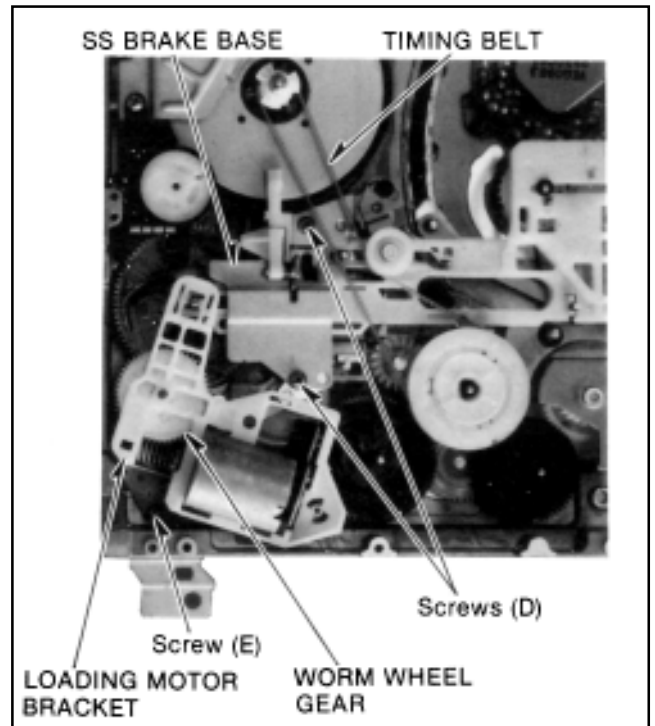

Fig. A3
- 1) Remove the screw(E) as shown in Fig.A3.
- 3) Lift up on the LOADING MOTOR BRACKET and push the BRACKET towards the MAIN CAM GEAR as shown in Fig.A3.